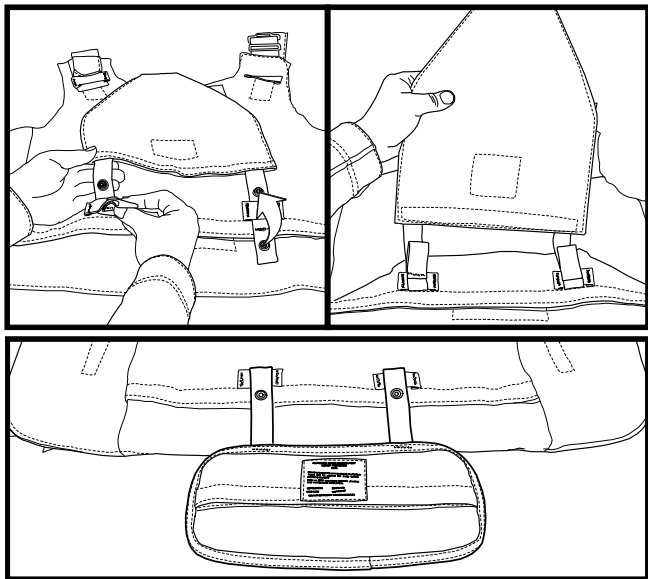

Figure 26. Attaching Groin and Lower Back Protectors.
23. Install groin protector and lower back protector (as required) (Figure 26).